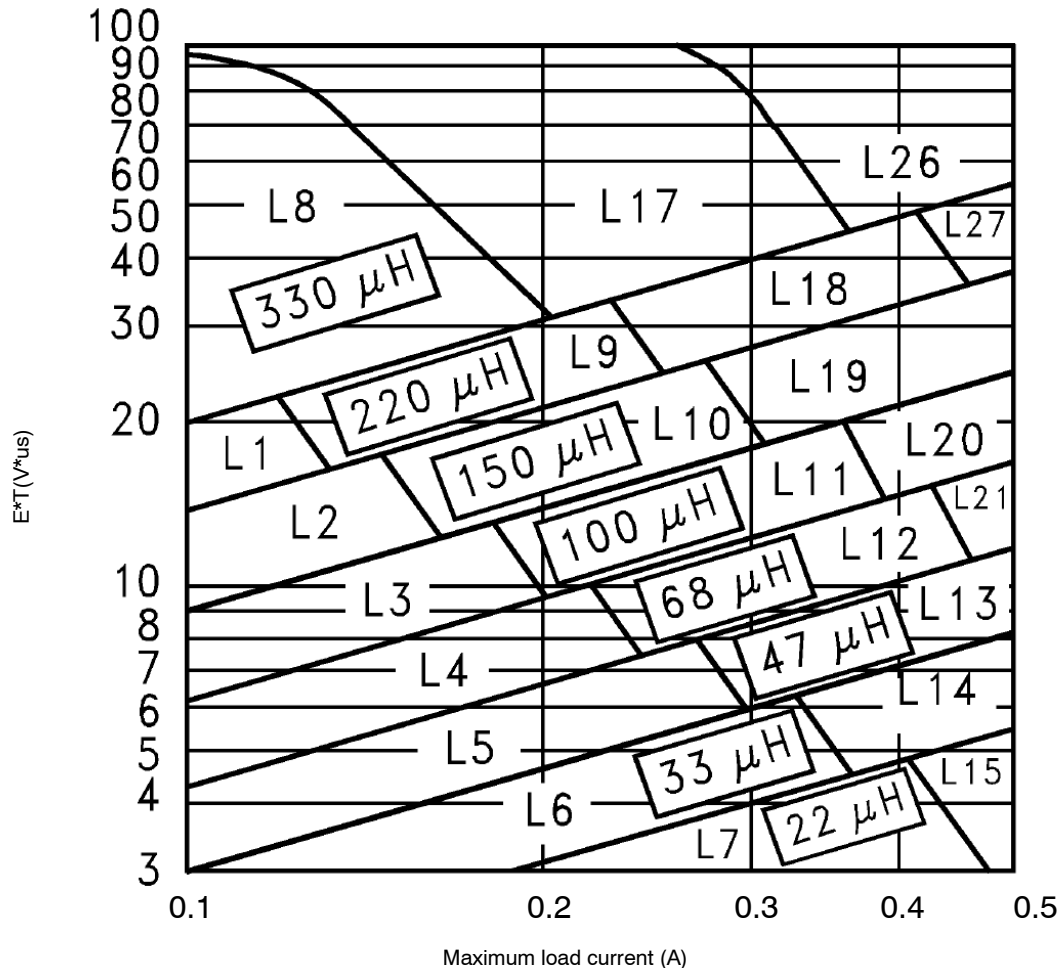

Figure 19. Inductor Value Selection Guides (For Continuous Mode Operation)
<p>4. Inductor Selection (L1)</p> <p>A. Use the following formula to calculate the inductor Volt x microsecond [V x <math>\mu</math>s] constant:</p> $E \times T = (V_{IN} - V_{OUT} - V_{SAT}) \times \frac{V_{OUT} + V_D}{V_{IN} - V_{SAT} + V_D} \times \frac{1000}{150 \text{ kHz}} (V \times \mu s)$ <p>B. Match the calculated E x T value with the corresponding number on the vertical axis of the Inductor Value Selection Guide shown in Figure 19. This E x T constant is a measure of the energy handling capability of an inductor and is dependent upon the type of core, the core area, the number of turns, and the duty cycle.</p> <p>C. Next step is to identify the inductance region intersected by the E x T value and the maximum load current value on the horizontal axis shown in Figure 19.</p> <p>D. Select an appropriate inductor from Table 3. The inductor chosen must be rated for a switching frequency of 150 kHz and for a current rating of <math>1.15 \times I_{Load}</math>. The inductor current rating can also be determined by calculating the inductor peak current:</p> $I_{p(max)} = I_{Load(max)} + \frac{(V_{in} - V_{out}) t_{on}}{2L}$ <p>where <math>t_{on}</math> is the "on" time of the power switch and</p> $t_{on} = \frac{V_{out}}{V_{in}} \times \frac{1.0}{f_{osc}}$	<p>4. Inductor Selection (L1)</p> <p>A. Calculate E x T [V x <math>\mu</math>s] constant:</p> $E \times T = (12 - 5 - 1.0) \times \frac{5 + 0.5}{12 - 1 + 0.5} \times \frac{1000}{150 \text{ kHz}} (V \times \mu s)$ $E \times T = (6) \times \frac{5.5}{11.5} \times 6.7 (V \times \mu s)$ <p>B. E x T = 19.2 [V x <math>\mu</math>s]</p> <p>C. <math>I_{Load(max)} = 0.5 \text{ A}</math> Inductance Region = L20</p> <p>D. Proper inductor value = 100 <math>\mu</math>H Choose the inductor from Table 3.</p>
To simplify the inductor selection process, an inductor selection guide for the LM2594 regulator was added to this data sheet (Figure 19). This guide assumes that the regulator is operating in the continuous mode, and selects an inductor that will allow a peak-to-peak inductor ripple current to be a certain percentage of the maximum design load current. This percentage is allowed to change as different design load currents are selected. For light loads (less than approximately 300 mA) it may be desirable to operate the regulator in the discontinuous mode, because the inductor value and size can be kept relatively low. Consequently, the percentage of inductor peak-to-peak current increases. This discontinuous mode of operation is perfectly acceptable for this type of switching converter. Any buck regulator will be forced to enter discontinuous mode if the load current is light enough.